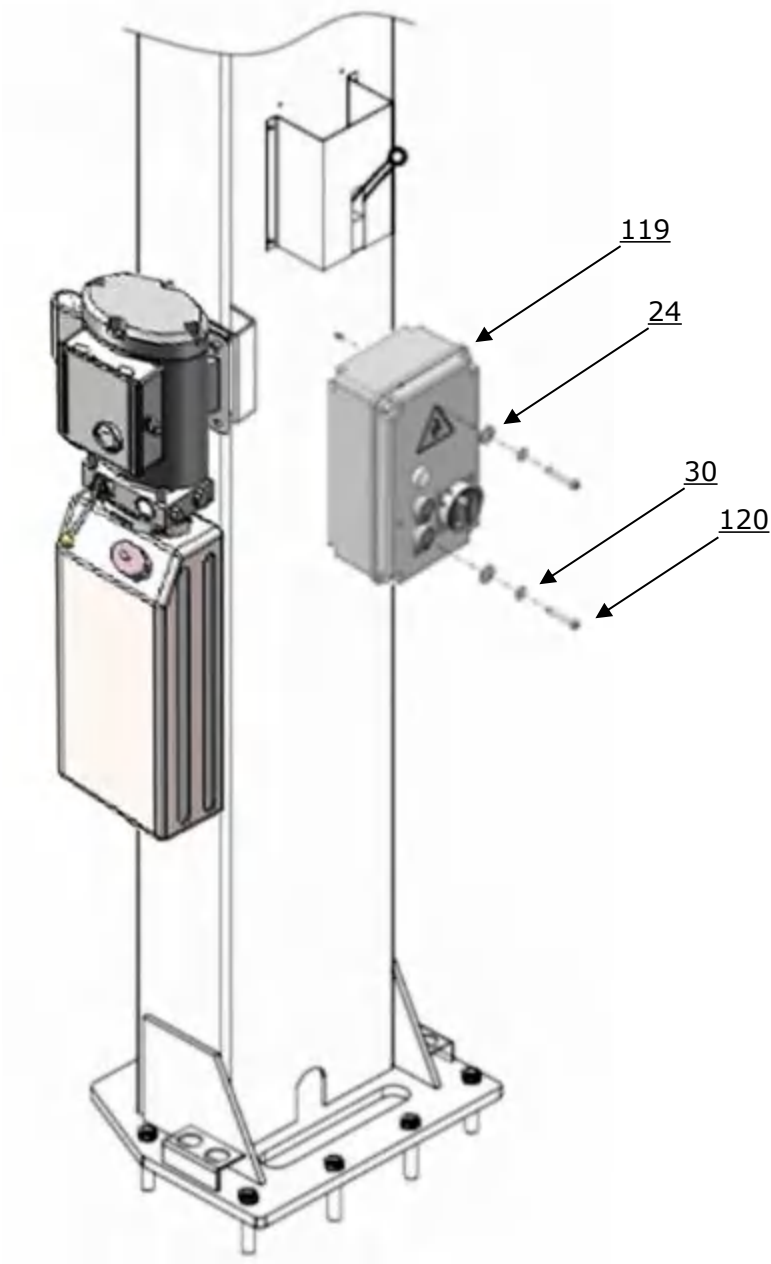

Fig.36
P. Install control box (See Fig. 36).